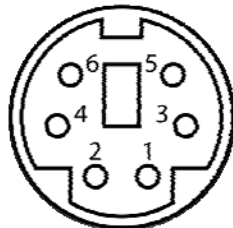

Figure 3-24: PS/2 Pinout and Configuration
- CN Pinouts: See **Figure 3-24, Table 3-24**